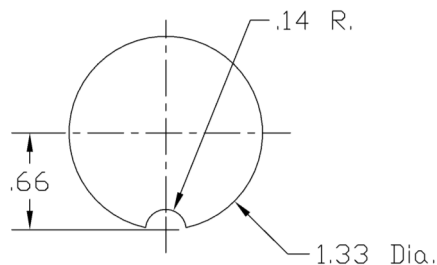

Figure 1 — Mounting Hole
- See Figure 1 for mounting hole detail.